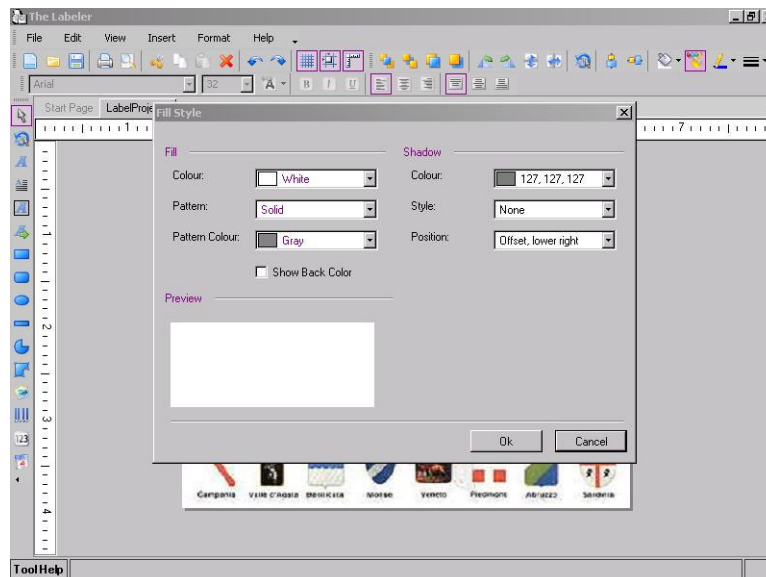

Figure 4.2.5.3: Fill Style screen
3. Select the Colour of the fill (see Figure 4.2.5.4).